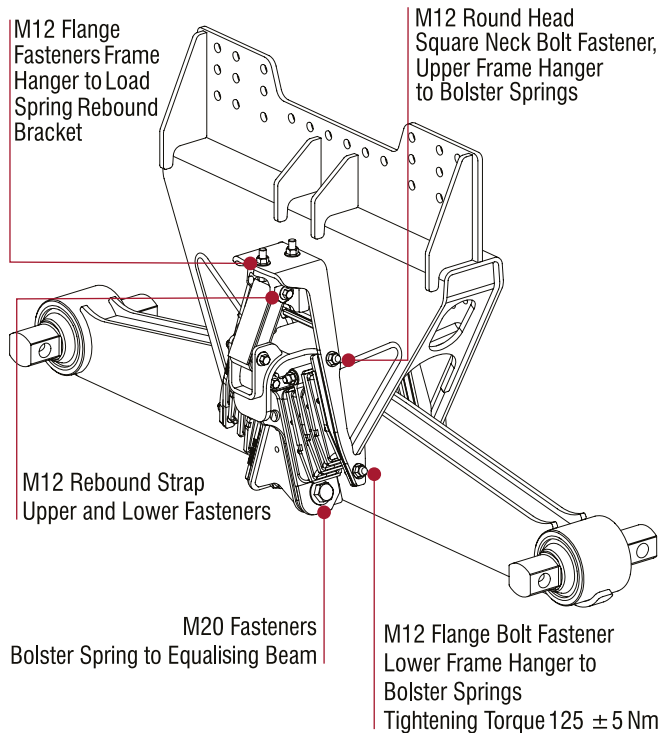

Figure 27: Saddle Assembly
2. Remove the M12 fasteners from the frame hanger to the tie-bar bolster springs, refer Figure 27.
3. Remove the M12 fasteners from frame hanger to load spring rebound bracket, refer Figure 27.
4. Remove the lower fastener and spacer from the rebound straps, refer Figure 27.
9. Remove M20 fasteners connecting the tie-bar bolster springs to the equalising beam, refer Figure 27.
3. Install the M12 and M20 fasteners and hand tighten. Do not tighten at this time, refer Figure 27.